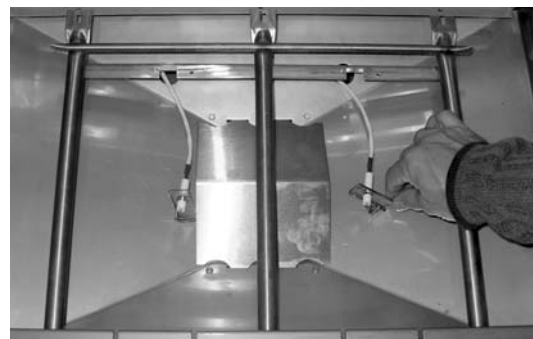

Fig 4
4. Lay igniters on floor of grill (Fig. 4).